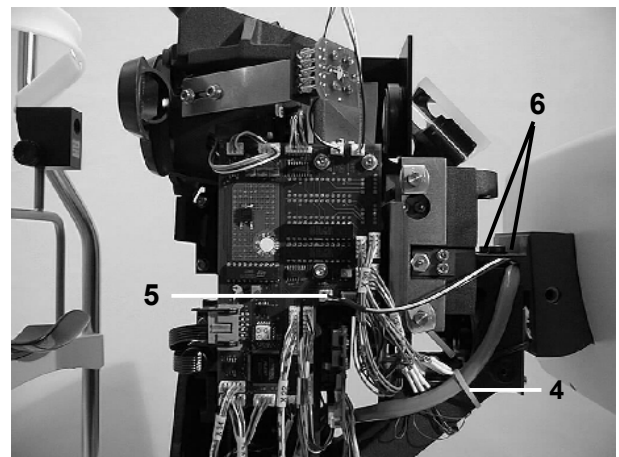

Fig. 6b
- Cut open cable tie ((4) Fig. 6b).
- Unplug connector ((5) Fig. 6b).
- Remove two screws ((6) Fig. 6b) and remove the LC display.